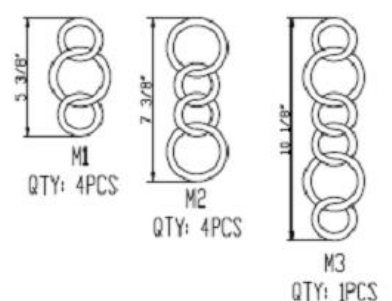

Fig.2
## CONNECTION THE WIRES (Fig. 2)
- At this point, connect the electrical wires as shown in figure 2, making sure that all wire connectors are secured. If your outlet has a ground wire (green or bare copper), connect the ground wires from the hanger ball and mounting plate to it. Otherwise, connect the ground wire from the hanger ball directly to the mounting plate ground wire and secure with the wire connectors provided. After wires are connected, tuck them carefully into the ceiling junction box.